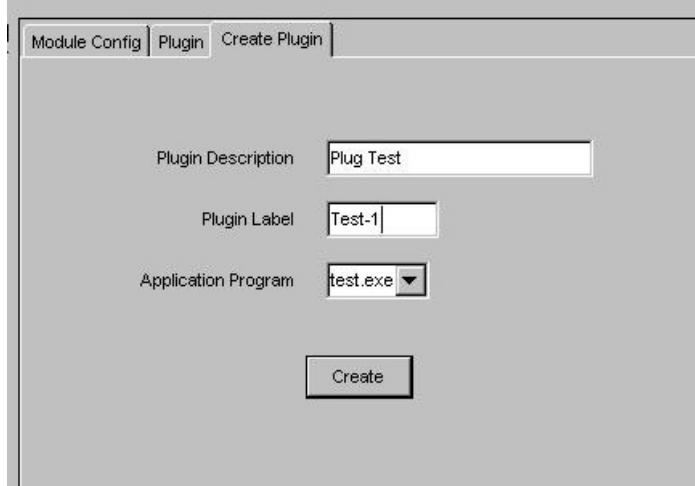

Figure 4-21: Naming and Associating a Plug-in file
Step 4. Click **Create** to complete the process. (See **Figure 4-21**)